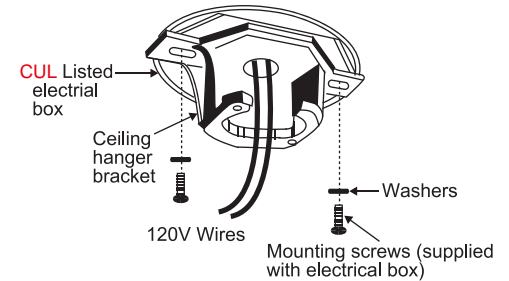

Fig. 8
Step 4. Pass the 120 volt supply wires from the ceiling outlet box through the center of the ceiling mounting bracket. (Fig.8)
Step 5. Attach the ceiling mounting bracket to the outlet box using the screws and washers included with the outlet box. (Fig.8)